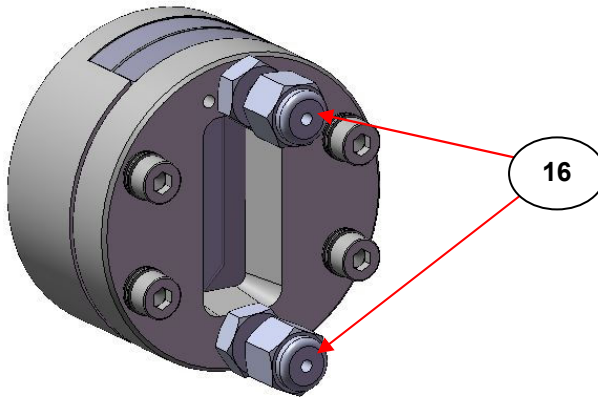

Fig 11. Flow Liquid Sample Cell GS20570 and GS20580 Series
The Flow Liquid Sample Cells GS20570 and GS20580 Series are respectively based upon the standard static GS20500 and GS20510 Series cells for their construction, but the front plate (1) is different. (See Fig 11.)